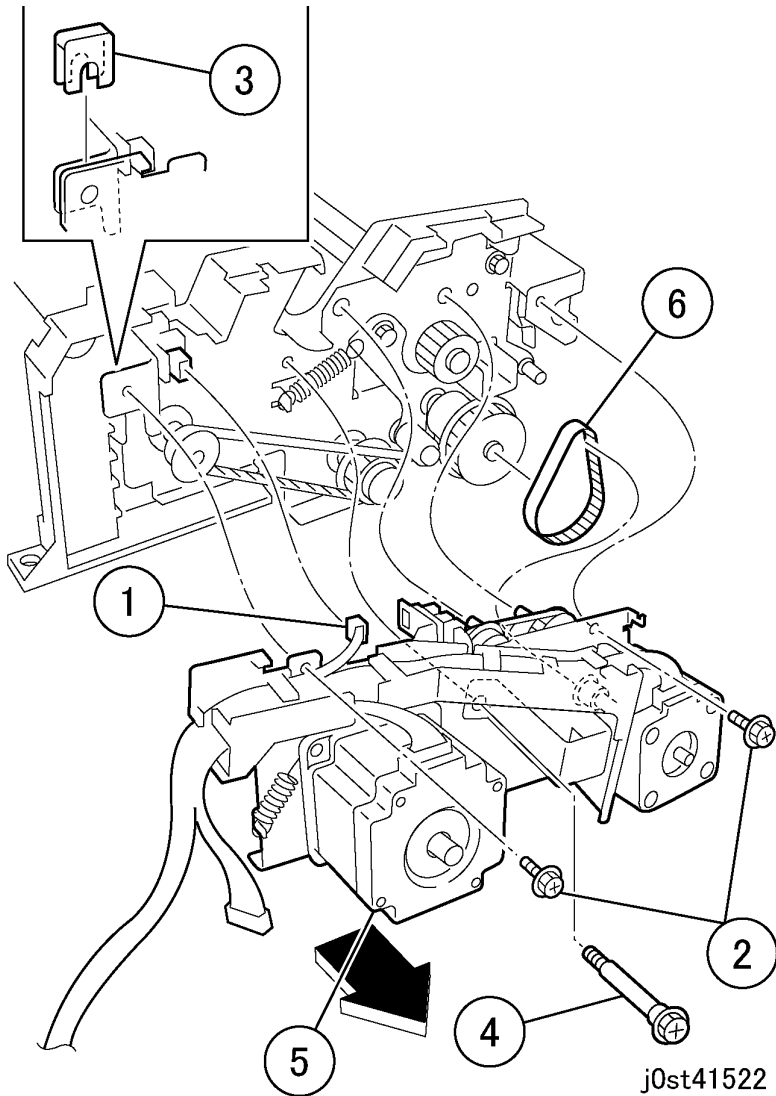

Figure 2 Moving the motor unit
7. Move the motor unit. (Figure 2)